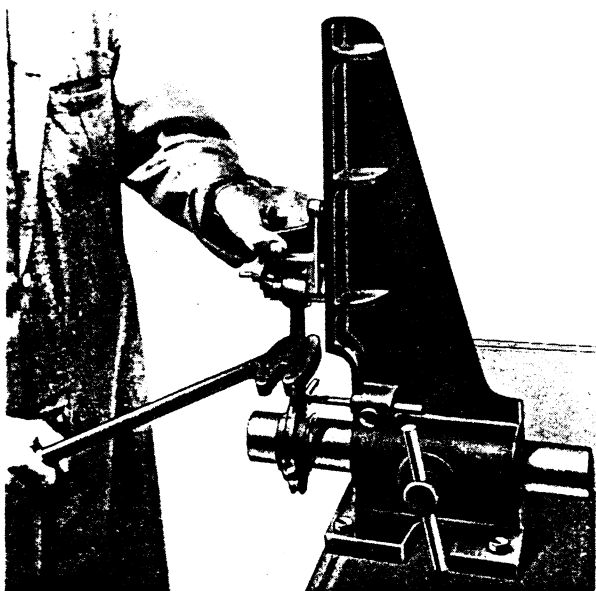

FIG. 36
1. Remove big end bearing liners, wash connecting rod in paraffin and mount on aligning jig FT.335 as shown in Fig. 36. Bolt up tight.